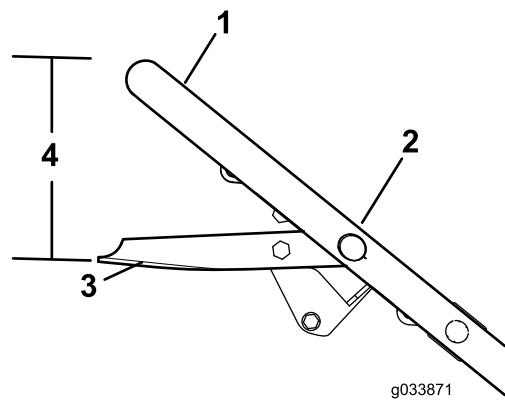

Figure 31
- Hold the blade-control bar at 19 cm (7-5/8 inches) from the top of the handle as shown in Figure 31.